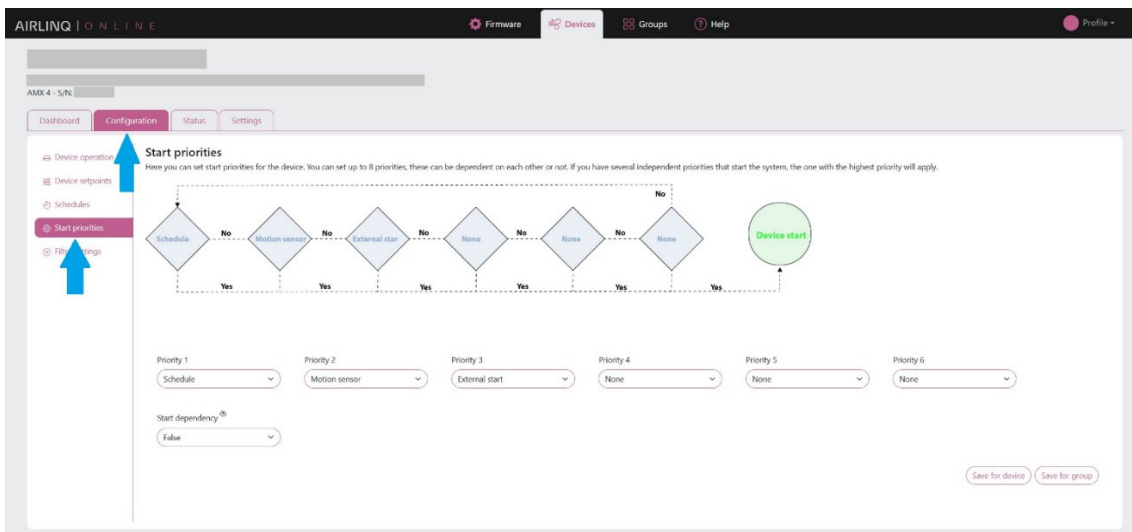

Figure 35: Start priorities menu
1. Go to the “Configuration” tab at the top, then click “Start priorities” in the left-hand menu, see Figure 35 below: